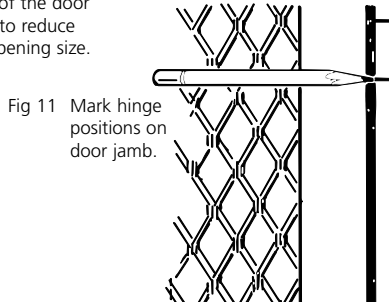

Fig 11 Mark hinge positions on door jamb.
3. Place the door in the frame, ensuring a gap of 3mm on the lock side (Fig 11). Mark the hinge positions on the door frame.